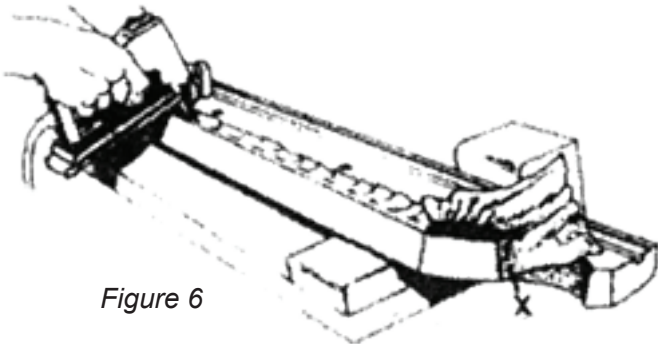

Figure 6
8. Pulling the cloth tightly over the rear edge of the pocket facing, staple three places at Figure 6, location X.
9. If the rail is an end rail repeat step 8 at the other end of the rail. Then starting at the center of the rail stretch the cloth tightly over the cushion and staple at the center on the bottom of the rail - working toward each end (Figure 6).